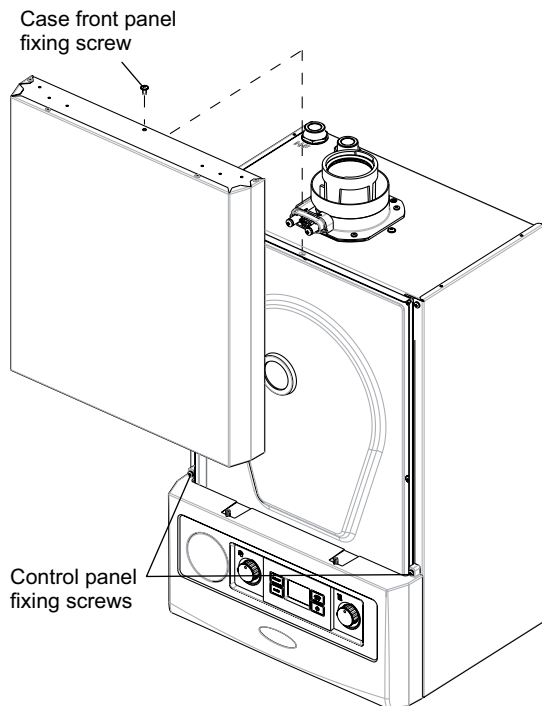

Fig. 7.1
7.2 PREPARE FOR SERVICING - Fig. 7.1 and 7.2
8.1 GENERAL ACCESS - Figs 7.1 and 7.2